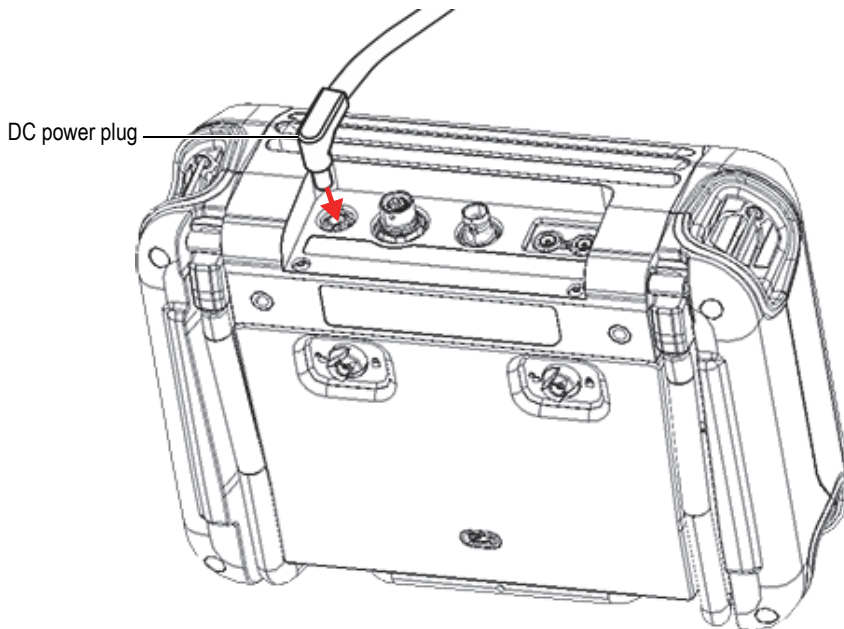

Figure 3-5 Connecting the DC power plug
1. Plug the DC power plug into the DC power connector on the 72DL PLUS gauge (Figure 3-5 on page 42).